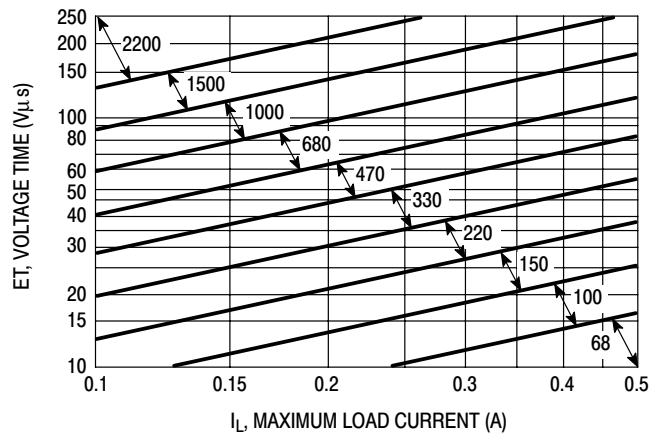

Figure 23. LM2574-ADJ
4. Inductor Selection (L1) A. Use the following formula to calculate the inductor Volt x microsecond [V x μs] constant: $E \times T = (V_{in} - V_{out}) \frac{V_{out}}{V_{in}} \times \frac{10^6}{F[Hz]} [V \times \mu s]$ B. Match the calculated E x T value with the corresponding number on the vertical axis of the Inductor Value Selection Guide shown in Figure 23. This E x T constant is a measure of the energy handling capability of an inductor and is dependent upon the type of core, the core area, the number of turns, and the duty cycle. C. Next step is to identify the inductance region intersected by the E x T value and the maximum load current value on the horizontal axis shown in Figure 27. D. From the inductor code, identify the inductor value. Then select an appropriate inductor from Table 2. The inductor chosen must be rated for a switching frequency of 52 kHz and for a current rating of $1.15 \times I_{Load}$. The inductor current rating can also be determined by calculating the inductor peak current: $I_{p(max)} = I_{Load(max)} + \frac{(V_{in} - V_{out})t_{on}}{2L}$ where t_{on} is the "on" time of the power switch and $t_{on} = \frac{V_{out}}{V_{in}} \times \frac{1.0}{f_{osc}}$ For additional information about the inductor, see the inductor section in the "External Components" section of this data sheet.	4. Inductor Selection (L1) A. Calculate E x T [V x μs] constant : $E \times T = (40 - 24) \times \frac{24}{40} \times \frac{1000}{52} = 105 [V \times \mu s]$ B. $E \times T = 185 [V \times \mu s]$ C. $I_{Load(max)} = 0.4$ A Inductance Region = 1000 D. Proper inductor value = 1000 μH Choose the inductor from Table 2.